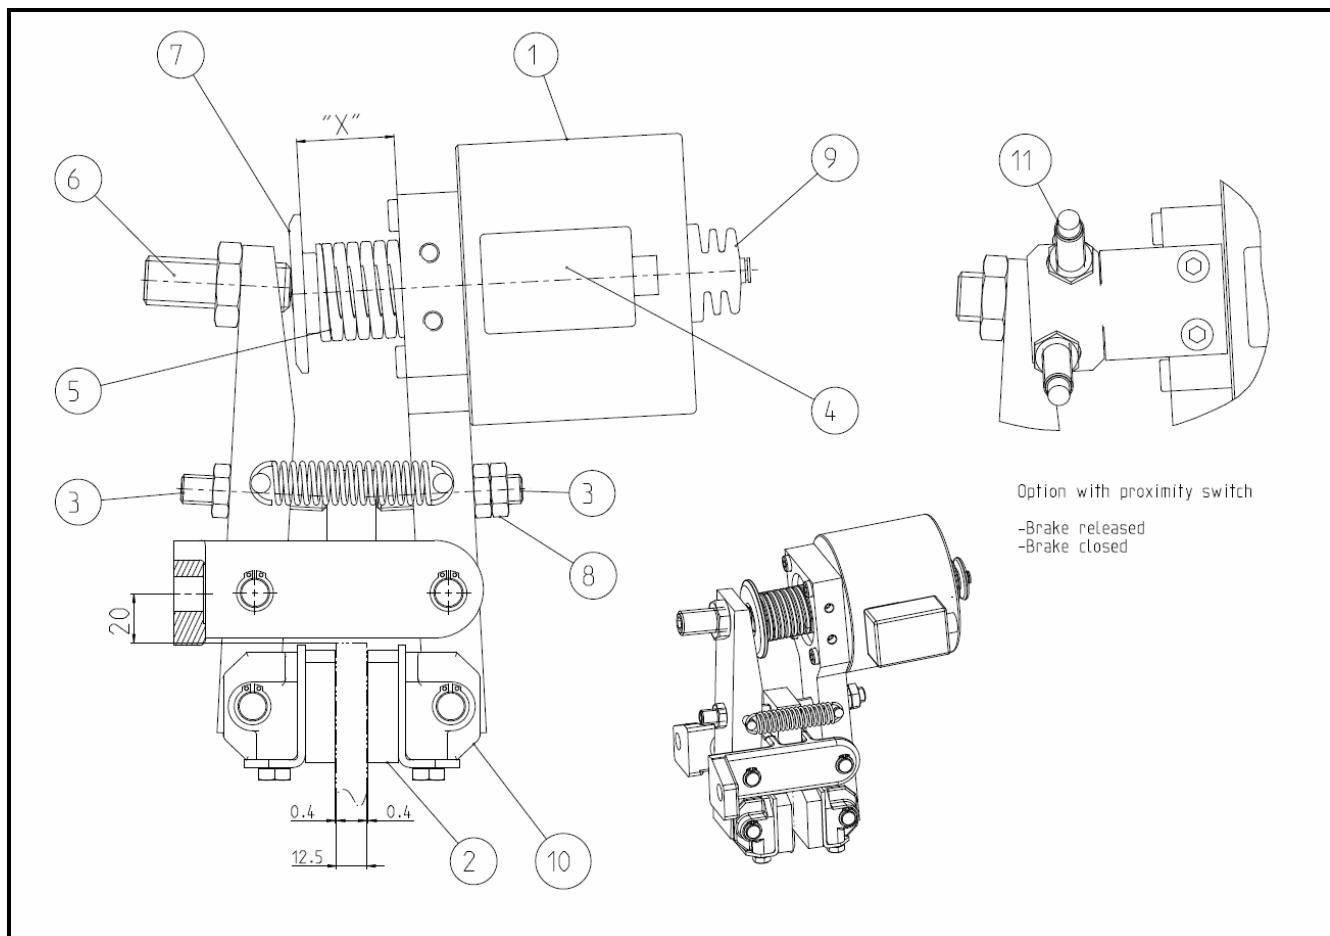

Fig. 3.1
- Brake pads to brake lever (10)
When the brake calliper closed, measure the distance between spring control (7) (see fig. 3.1) and brake lever.
When brake pads are worn, in the closed condition of the brake calipers tension in the spring is reduced increases and the distance 'X' between spring control and brake lever (see fig. 3.1) becomes larger. This reduces braking force. At a protrusion distance of 45 mm, at the latest, braking force must be readjusted as described in Section!